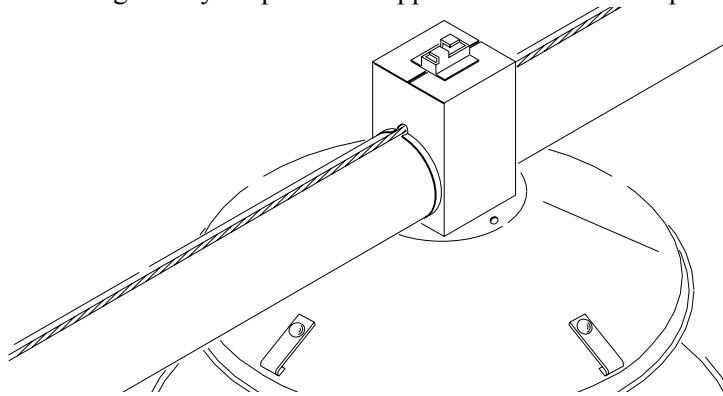

Figure 44. Winch Cable Routing
4. Thread the cable through every drop tube to support the cable and keep it in position, see figure 44.